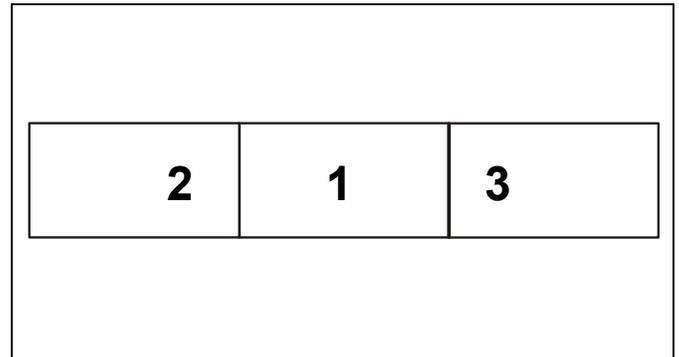

Figure 18
- The center display **MUST** be installed first and centered between two columns (See Figure 18)